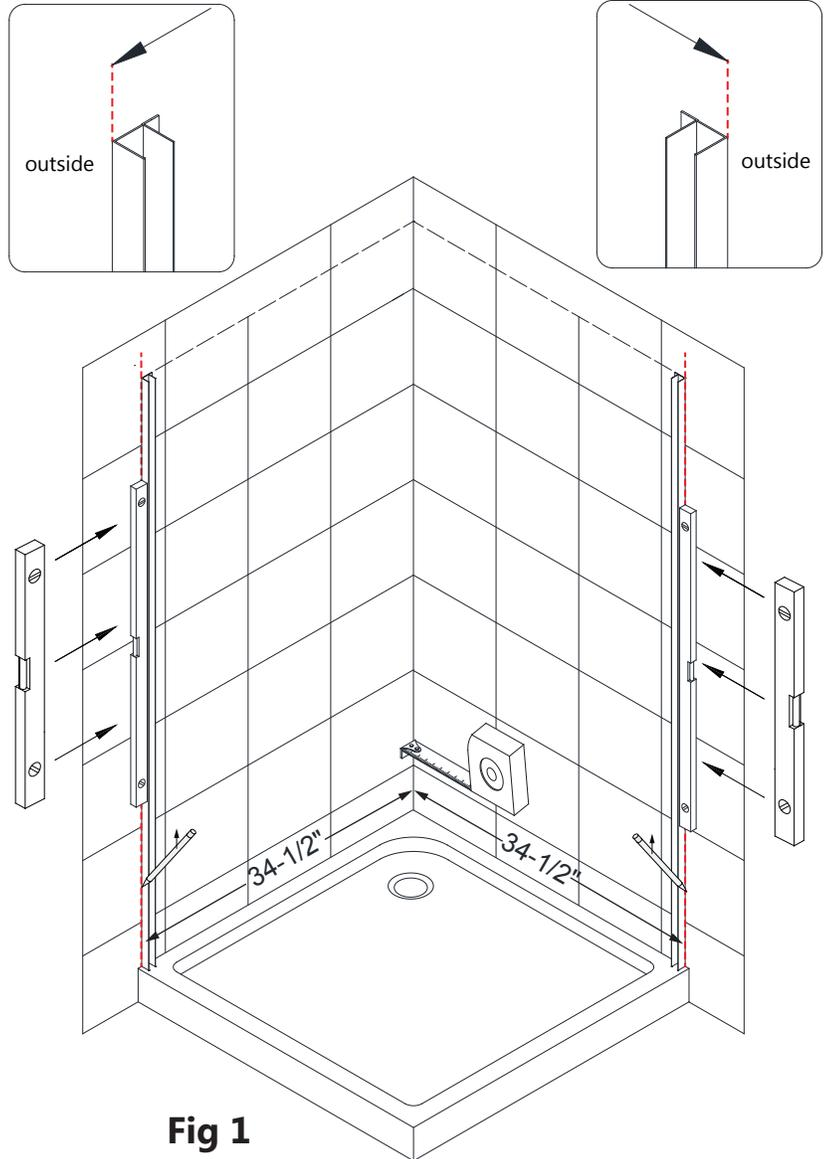

Fig 1
1. Place the **Wall Profiles (#01)** onto the threshold at a distance of **34-1/2"** from the finished corner of the opening and mark their position on the wall at the threshold. Use a level to align the **Wall Profiles (#01)** vertically and mark the wall. **(Refer to the Shower Enclosure Plan on page 5 and Fig 1)**